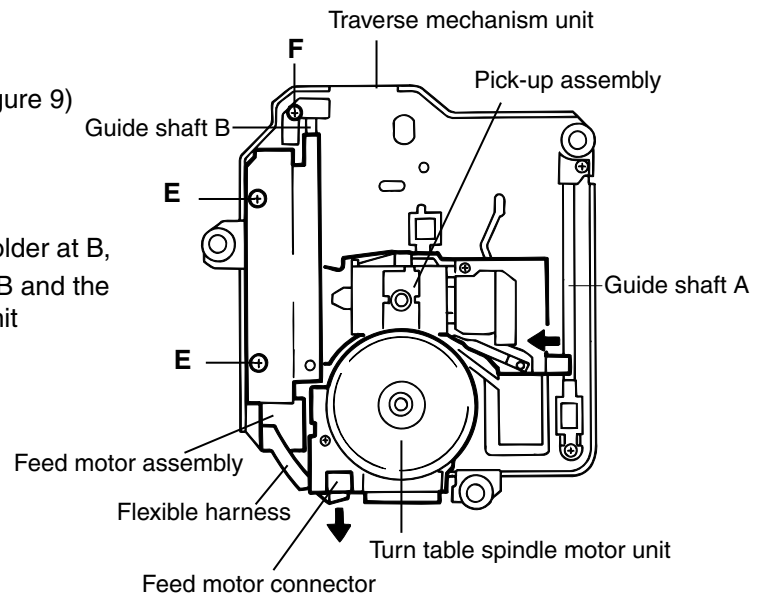

Figure 9
■ Removing the feed motor unit (refer to Figure 9)
■ Removing the optical pickup unit (refer to Figure 9)